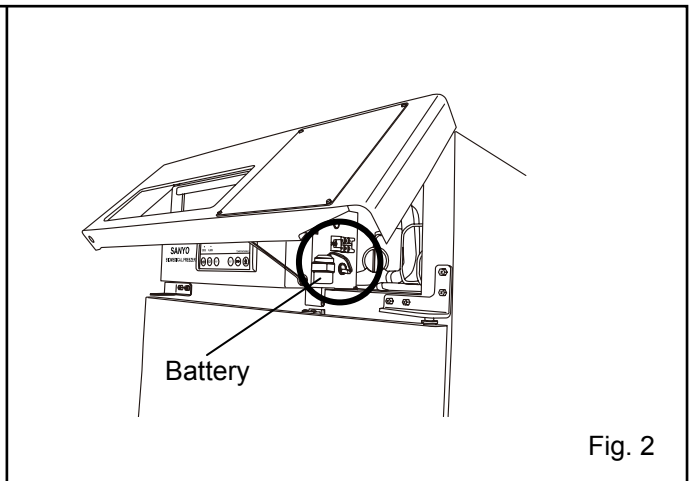

Fig. 2
2. Lift the front cover. (Fig. 2)